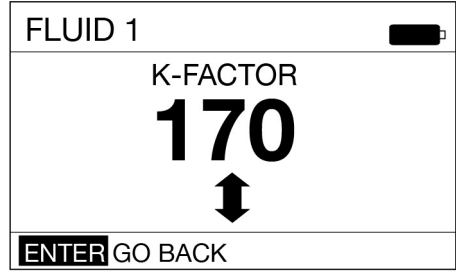

FIG. 67
5. After adjustments to the k-factor are complete, ENTER should be highlighted in the lower left corner of the display as shown in FIG. 67. Press the center ENTER button on the keypad to select ENTER and save the new calibration factor.